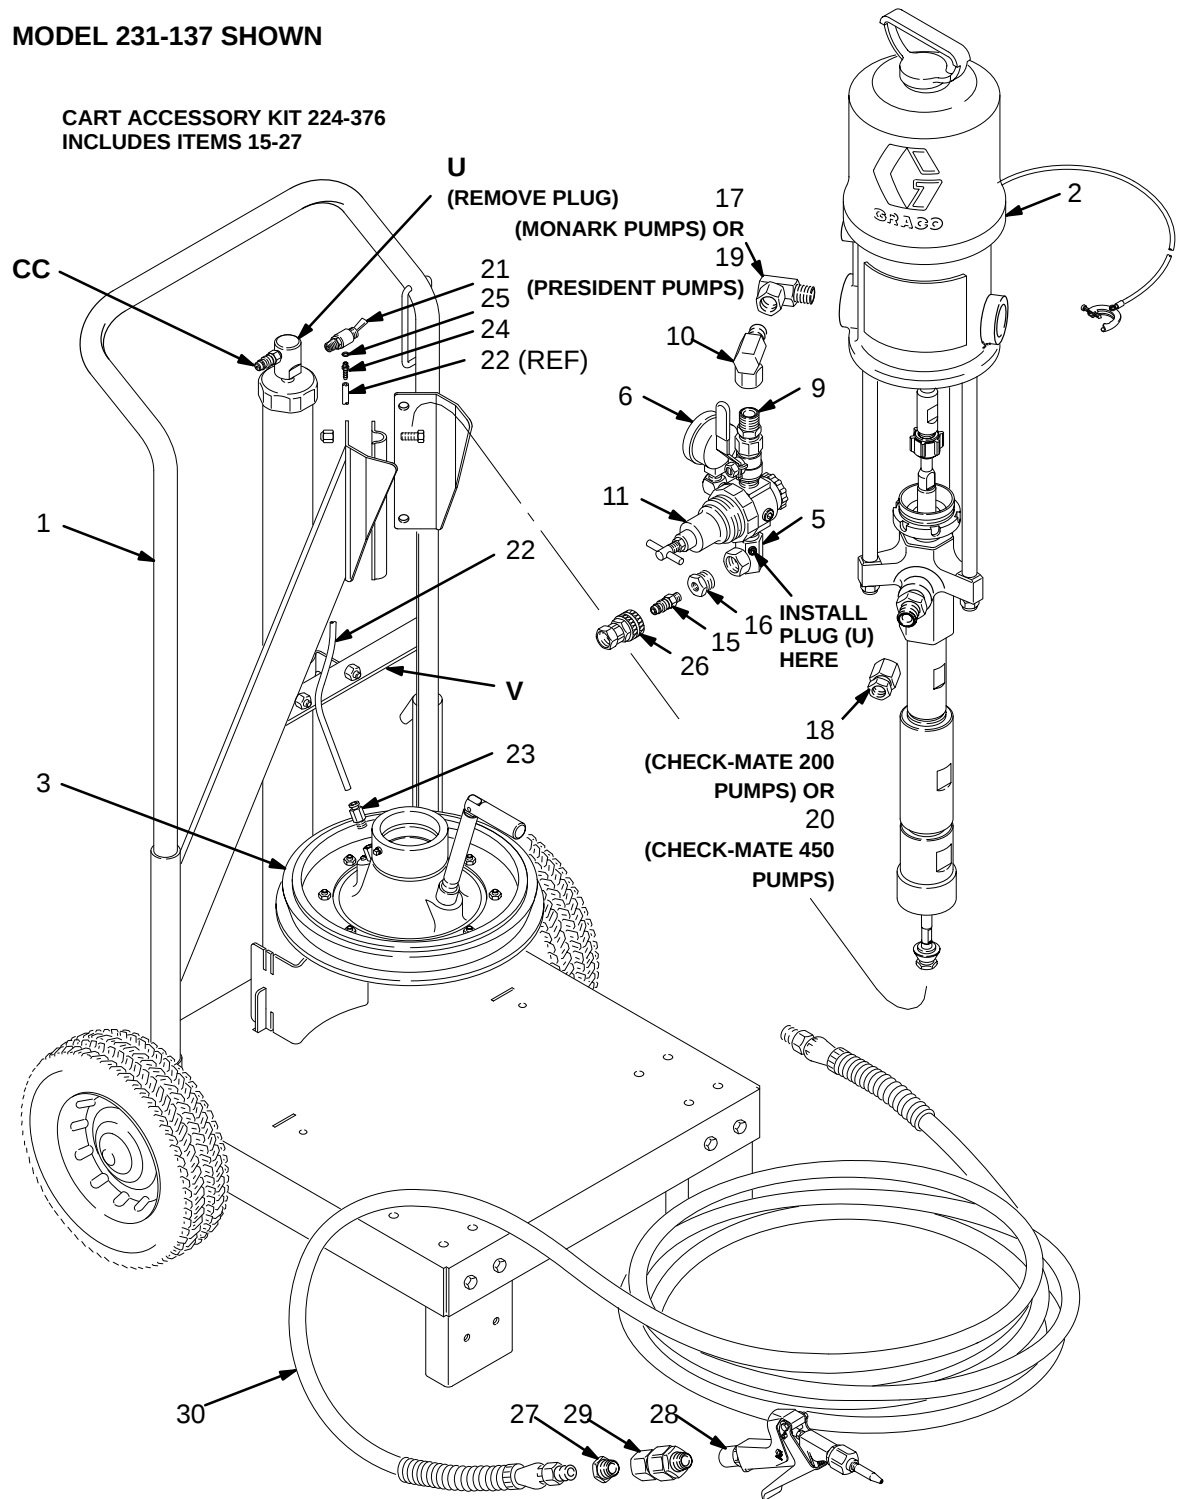

Fig. 2
1. Screw the air inlet adapter into the pump's air inlet. *For Monark pumps*, use the straight swivel adapter (17), which will be oriented as shown in the parts drawings on pages 14 and 18. *For president pumps*, use the 90° swivel adapter (19) with the swivel angled forward (see Fig. 2).
2. The air regulation kit (4) requires some reconfiguration before it is assembled to the pump. Proceed as follows:
- a. Remove the 90° swivel adapter (10) from the air regulation kit (4). Attach this adapter to the swivel adapter (17 or 19) installed in Step 1. The swivel end of the adapter (10) must face down. See Fig. 2 for President pumps and the parts drawings on pages 14 and 18 for Monark pumps.
- b. Remove the air manifold (5) so its swivel inlet faces the same direction as the T-handle of the air regulator (11). See Fig. 2.
- c. Reorient the pressure gauge (6) and the elbow which attaches it to the air regulator so the gauge is upright and faces backward, toward the handle of the cart. See Fig. 2.
- d. Screw the bushing (16) into the swivel inlet of the air manifold (5), and screw the male quick disconnect fitting (15) into the bushing. Screw the female quick disconnect coupler (26) onto the air hose (D, see page 6).
- e. Install the air regulation kit onto the pump by connecting the nipple (9) to the swivel end of the adapter (10). Tighten securely. When properly installed, the pump air inlet fitting (15) will face the same direction and be parallel to the air inlet fitting (CC) on the pneumatic elevator.
3. Screw the fluid fitting onto the pump's fluid outlet. Use the 1/2 npt(f) adapter (18) for Check-Mate 200 Pumps, and the 3/4 npt(f) coupling (20) for Check-Mate 450 Pumps.
4. Remove the plug from the air valve housing (U) on the top of the cart's cylinder. Screw the plug into the open port of the air manifold (5), as shown in Fig. 2.
5. Screw the air release toggle valve (21) into the open port of the air valve housing (U). Be sure that the hole on the release valve is facing down.
6. Place the gasket (25) on the threaded end of the barbed stud (24). Screw the stud into the air release toggle valve (21). Push one end of the tube (22) onto the barbed stud (24).
7. Screw the tube fitting (23) into the port on the wiper plate (3).
8. Route the tube (22) over the crosspiece (V) of the cart frame and bring it to the tube fitting (23). If the tube is longer than necessary, it can be shortened by cutting. Do not shorten the tube by more than 152 mm (6 in.).
9. Push the tube into the tube fitting (23) until it snaps securely in place. Pull on the tube to ensure it is locked.
- NOTE:** To release the tube (22) from the fitting (23), press in and hold the button on the fitting, and pull the tube out.
10. If your model is equipped with a hose and gun, connect one end of the fluid hose (30) to the fitting (18 or 20) at the pump's fluid outlet.
11. Screw the bushing (27) onto the other end of the hose (30).
12. Screw the gun swivel (29) into the fluid inlet of the gun (28).
13. Connect the gun swivel (29) to the bushing (27) on the free end of the hose (30).